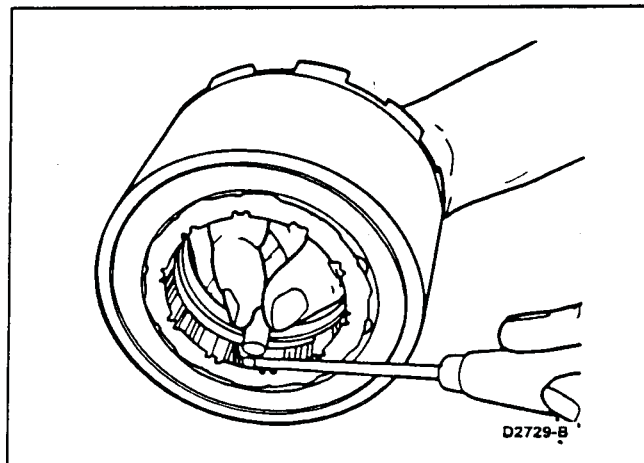

FIG. 35 Insertion of Bearing Rollers
4. Insert bearing rollers one by one, using a suitable screwdriver and install snap ring (Fig. 35).